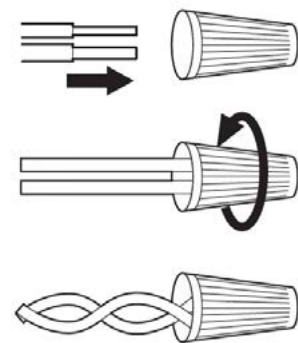

Figure 16
3. Pass the power cable through the strain relief and into the junction box. Connect the black wire of the dishwasher to the black wire of the power cable by inserting both into a twist-on wire connector and then rotating until snug (Figure 16).